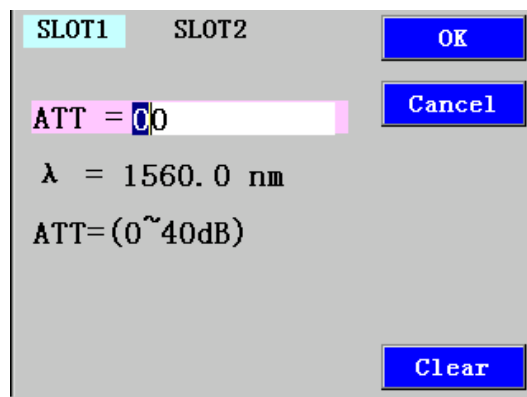

Fig. 24 Detail screen set the attenuation
- 2 Move to < ATT > parameter and press [Edit]. You see the screen in Figure 24.